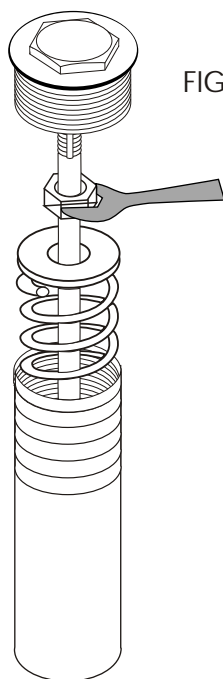

FIGURE 7
2.) Once top fork cap is loosened sufficiently that it is no longer attached to fork stanchion, grasp lower fork leg at axle seat and compress fork approximately 1". Loosen dummy rod from fork cap by inserting 9/16" wrench onto nut under fork cap and turn counter clockwise until cap can be removed from dummy rod (figure 7).